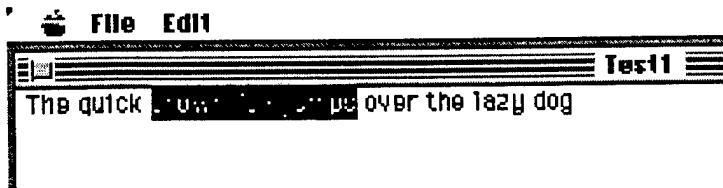

Figure 2.9: Text inverted by pressing the mouse and dragging along text
- Using the mouse, select a portion of the text. This operation is performed by placing the mouse pointer in the vicinity of the text to be selected, then using the click-and-drag technique described earlier. When a portion of text has been selected, the text will appear inverted (or highlighted) as shown in Figure 2.9.